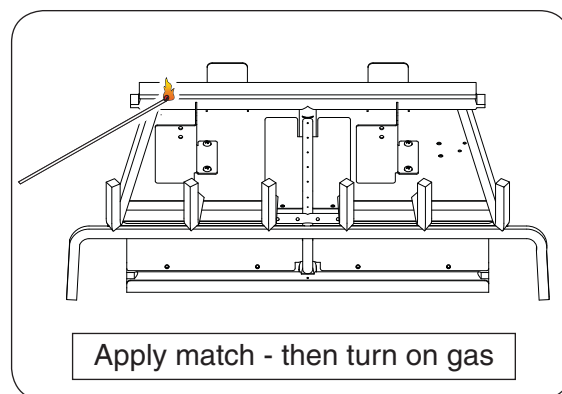

Fig. 17-1
3. Lay a lighted match on the center of the top burner (**do not hold the match in your hand**) or use a lighted long-stem match/long-necked butane lighter (Fig. 17-1).